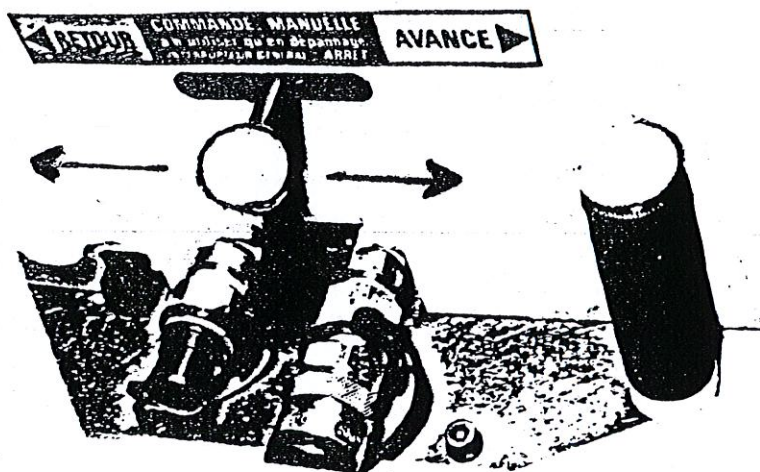

fig.6
6.2 Commande manuelle (figure 6)